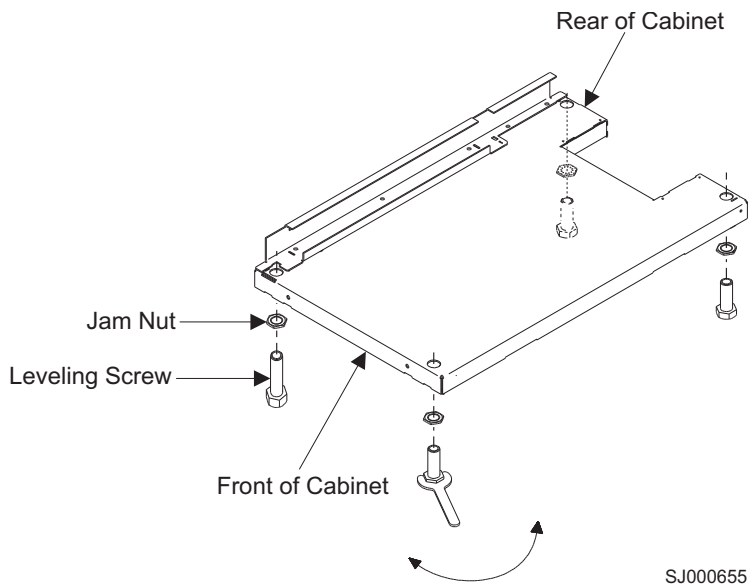

Figure 83. Leveling the rack
26. Adjust the leveling screw downward, as needed, until the rack is level. See Figure 83 on page 212. When the rack is level, tighten the jam nuts against the base by turning the jam nut clockwise, toward the bottom of the rack. Torque the four bolts to 54–67 nm (40–50 ft-lbs).